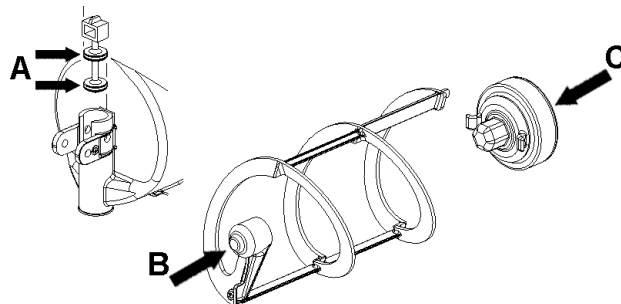

figure 13
- Lubricate faucet piston, outer spiral and outside magnetic rotor (see points A, B and C of figure 13) only with the grease supplied by the manufacturer or other food grade approved lubricant.